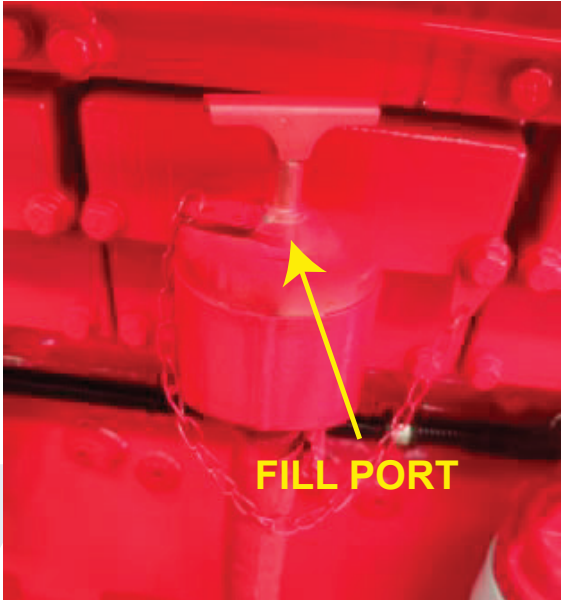

FIGURE 24 - OIL FILL PORT
- Fill diesel engine with appropriate oil (See TABLE 10) using the oil fill port on top of the engine. See FIGURE 24.
- Turn the diesel engine off. Wait a minimum of five (5) minutes and check the diesel engine oil level. Add oil if necessary.